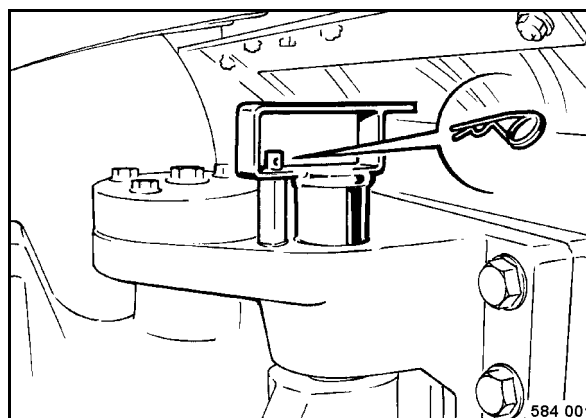

Fig. 120
- After the transport loosen the articulation lock (Fig. 120) again, fix it in its receptacle and lock it with the spring plug.